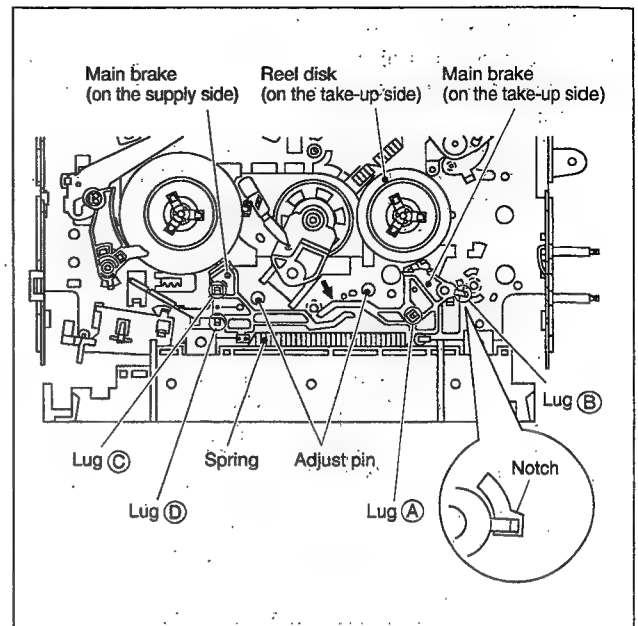

Fig. 2-2-33
- (1) Move the main brake (on the take-up side) in the arrow-indicated direction and remove the reel disk (on the take-up side).
- (2) Remove the spring attached to the main brake.
- (3) Remove lug (A) of the main brake (on the take-up side) and pull out lug (B) after bringing it into alignment with the main deck notch.
- (4) Remove lugs (C) and (D) of the main brake (on the supply side) from the main deck and pull them off. (See Fig. 2-2-33)